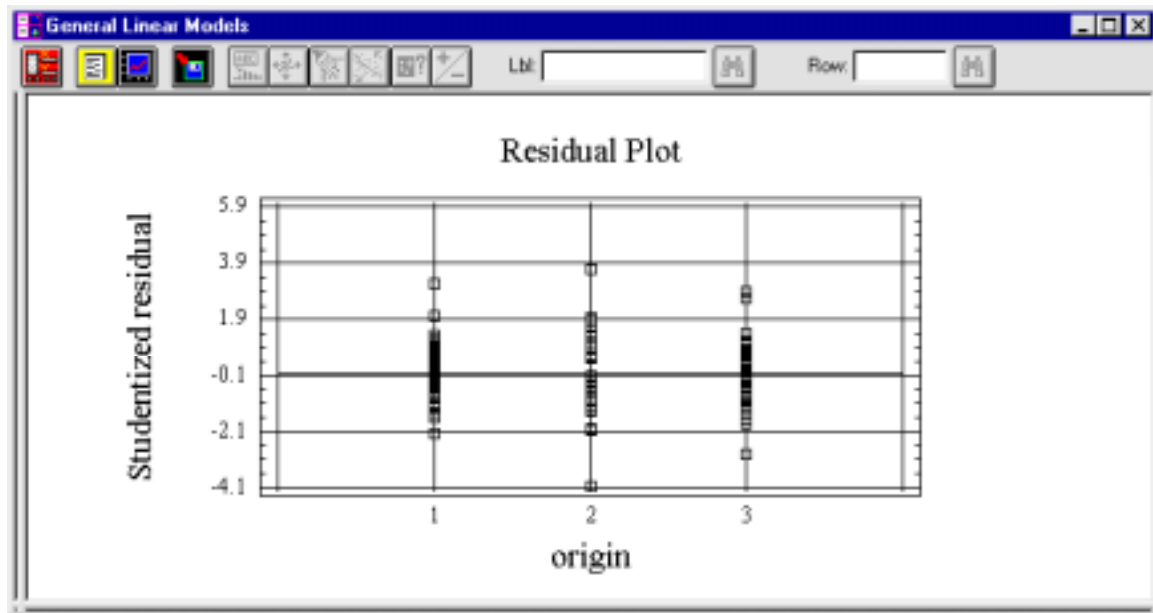

Figure 1-21. Residual versus  $X$  Scatterplot
The Residual versus X scatterplot displays the residual or studentized residual versus the independent variable (X). Use this plot to detect the nonlinear relationship between the dependent and independent variables (see Figure 1-21). You can also use the plot to determine if the variance of the residual is constant. Nonrandom patterns indicate that the chosen model does not adequately describe the data. Any residual value outside the range of -3 to +3 may be an outlier.